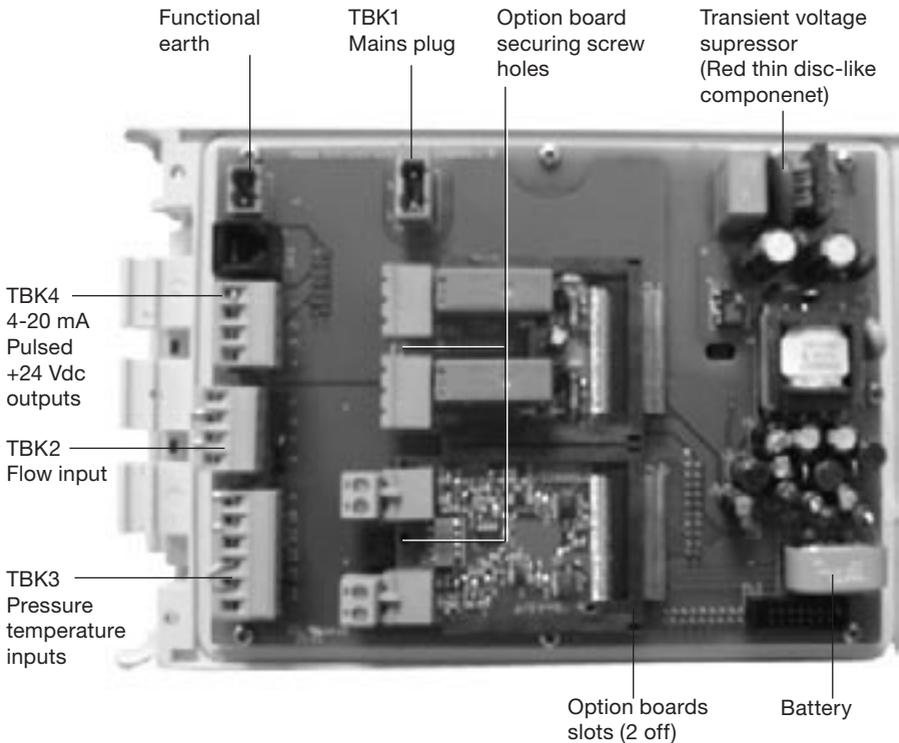

Fig. 16 General circuit board view
5. Carefully slide the option board into one of the two slots on the back of the front cover (Figure 16).